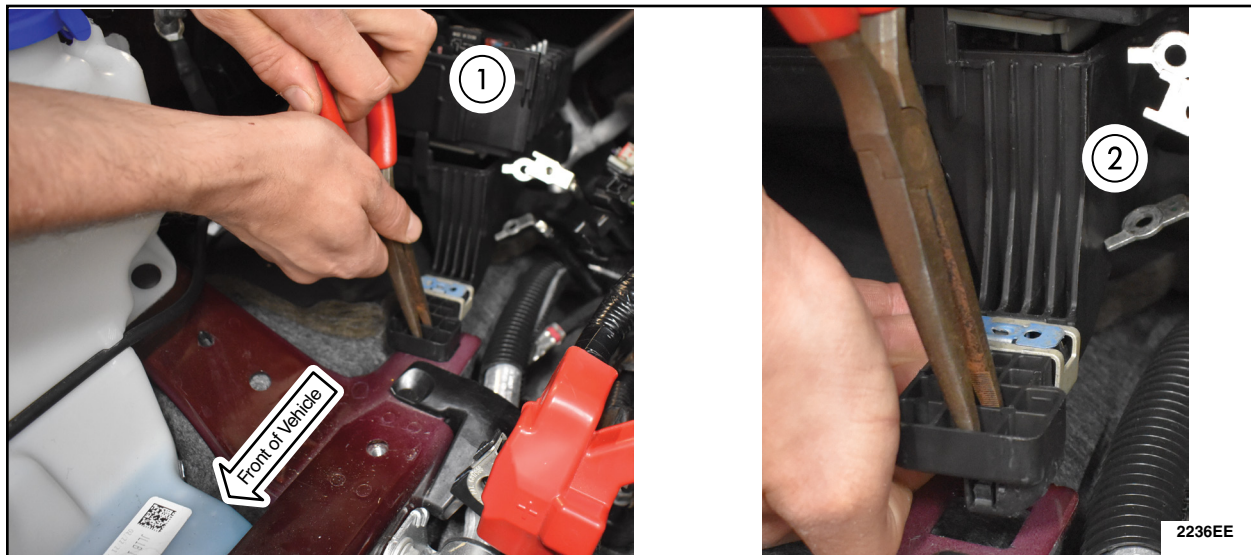

FIGURE 10
10. Release the tab connecting the BJB to the frame. Needle nose pliers will be needed to release the tab. See Figure 10.